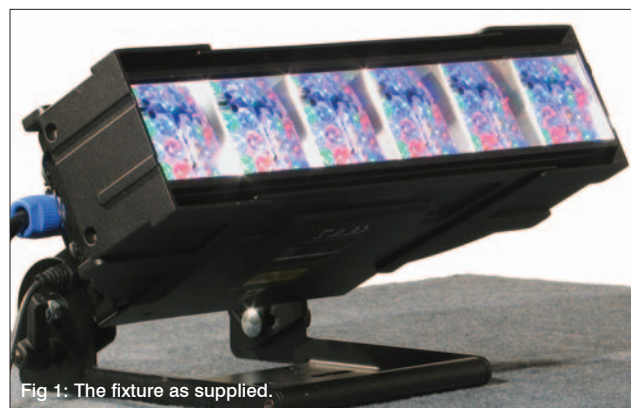

Fig 1: The fixture as supplied.
- red, green, blue, amber, and white. Can this system provide the range of colours needed, from deep saturated colour washes through theatrical pastels? (Figure 1.)
We normally start with the light source in these reviews. Here, of course, it's the same five colours of LEDs that provide our colour mixing. As can be seen in Figure 1, the unit comprises six "cells" or pixels, each of which contains nine LEDs; two each of red (1.2W), blue (2.9W), green (2.9W), and amber (1.2W) and a single central white (2.9W), for a total cell power of 19.3W per cell, or a grand total of 116W (Figure 2: LED layout). All devices are the well-known Lumileds Luxeon K2, rated at 50,000 hours life.
Mechanical construction is clean and tidy, with various options for rigging the unit on either a bar or floor. Figure 1 shows the unit using its floor stand. There are also grooves in the fixture's outer case, to facilitate alignment when used in an array. As shown in Figure 11, both ends of the unit swing open for access to the lenses and diffusing filter, as well as the main electrical connections and fuses. Maintenance should be simple.